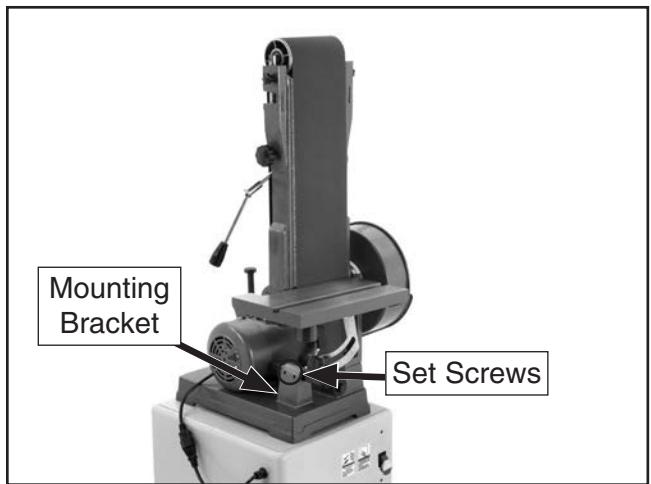

Figure 66. Work table installed for vertical sanding.
8. Loosen the set screws on the mounting bracket behind the motor, then slide the support rod and work table assembly into the bracket hole, as shown in **Figure 66**.